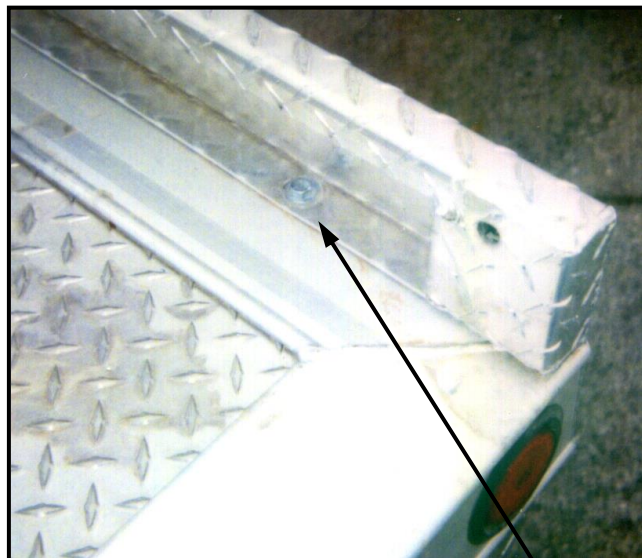

Figure 2
Replace side rails on truck bed and line up holes, insert (1) 5/16 x 1 cap screw with a 5/16 flat washer into each hole (Figure 2). Secure side rails with (1) 5/16 hex lock nut with flat washer on each bolt. Replace carriage bolt. Tighten 5/16 hardware to 13 ft-lbs.